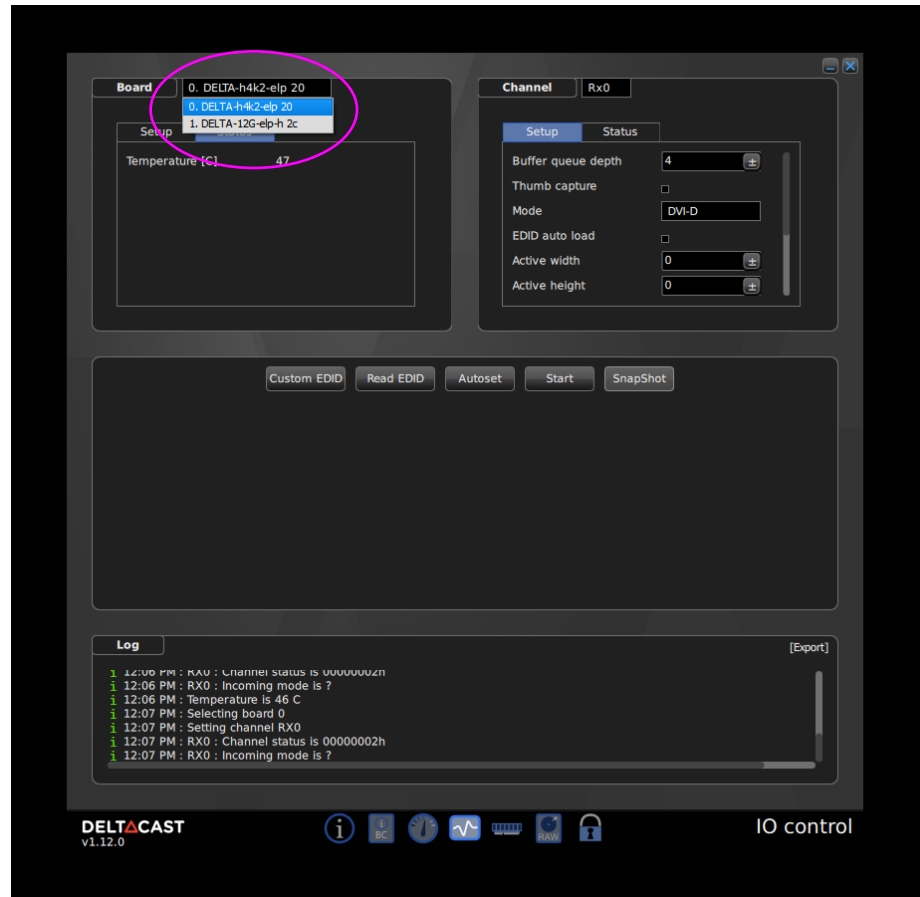

Figure 10
- » If your capture card identifies itself as a “Delta_h4k elp 20” in the *Board* field (see Figure 10) choose the file named “delta_h4k_edid.bin”